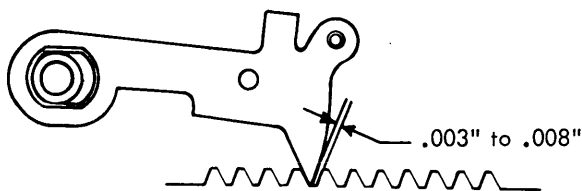
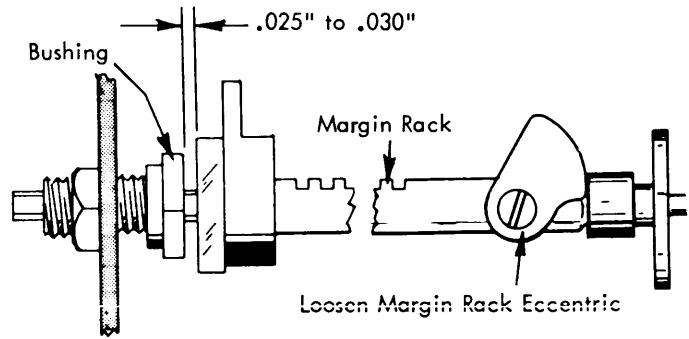

FIGURE 137. Escapement Pawl Check
FIGURE 138. Overbank Adjustment
- a. Old Style - With the carrier held fully to the left against the margin stop, a clearance of .003" to .008" should exist between the working surfaces of the escapement pawl and the escapement rack tooth (Fig. 137). Adjust the left hand margin rack bushing to obtain this condition (Fig. 138).
The overbank adjustment insures that the escapement pawl will enter the correct escapement rack tooth when the carrier return clutch is unlatched at the left margin. The adjustment may be observed from the top with the platen and deflector removed and the left margin stop positioned toward the middle of the rack. The overbank may also be adjusted by adjusting the margin rack bushing to clear the nylon washer on the margin rack by .025" to .030" with the carrier resting at the left margin. The right hand margin rack eccentric should be loose when making this adjustment (Fig. 138). The right hand margin stop will be against the stop latch on the carrier. The .025" to .030" compensates for the .022" floating action in the escapement pawl. (The correct adjustment for the margin rack eccentric is covered under the Margin Control section.)